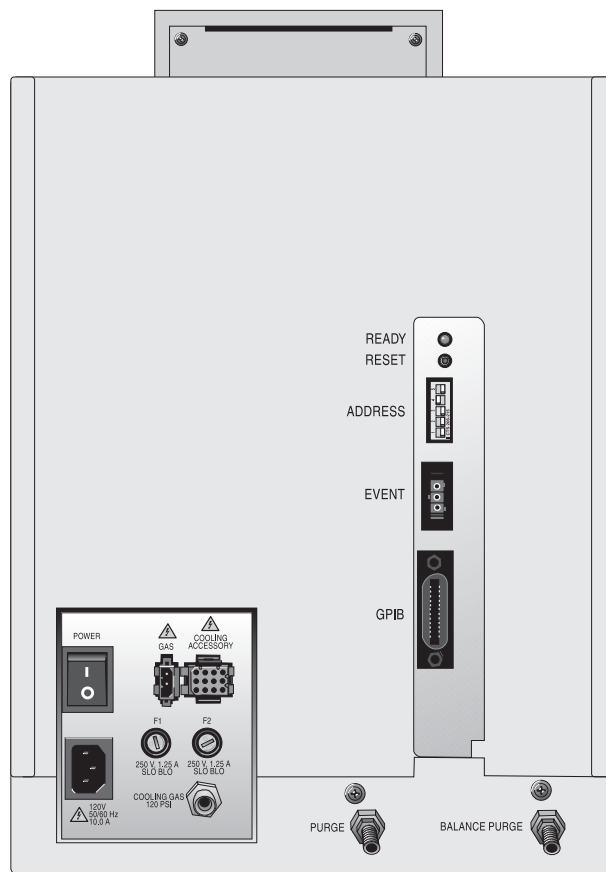

Figure 2.9
1. Locate the GPIB connector on the right rear of the TGA instrument (See Figure 2.9).
1. Locate the PURGE and BALANCE PURGE fittings on the back of the TGA instrument (Figure 2.9).